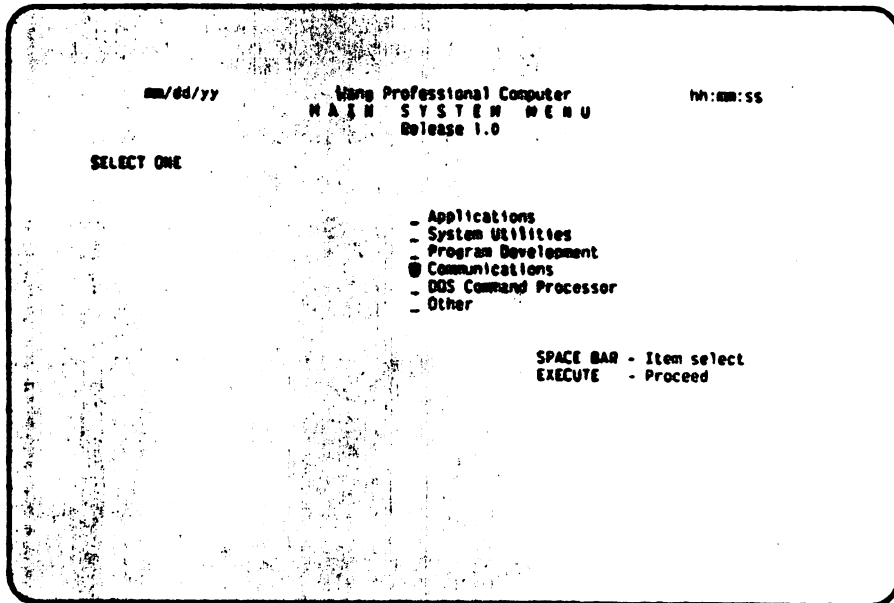

Figure 11-2 The Main System Menu
If the start is successful, the system displays the Date and Time screen. If you choose to enter the date and time, press RETURN to move from item to item. After entering or not entering this optional information, press EXEC. The Main System Menu is displayed. Refer to Figure 11-2.
To make selections on the menus depicted in Figures 11-2 and 11-3, move the acceptance block (■) to the desired choice. There are two methods of moving the acceptance block. You can use the space bar and the Backspace key to move forward and backward through the list of options. Alternatively, if you want to move immediately to a particular option, press the letter key on the keyboard corresponding to the first letter of the desired option. Thus, you can choose Communications on the Main System Menu either by pressing the space bar three times or by typing the letter C.
1. Select Communications from the Main System Menu. Refer to Figure 11-2.